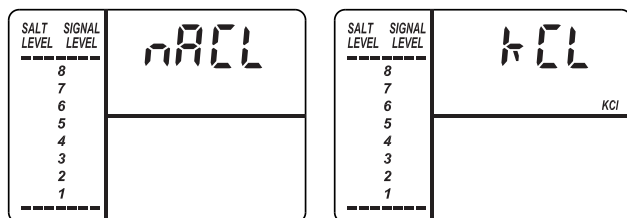

Figure 20
2. When the desired recharge start time is displayed, press the SELECT button, and the display will change to show one of the "Salt Type" screens shown in Figure 20.